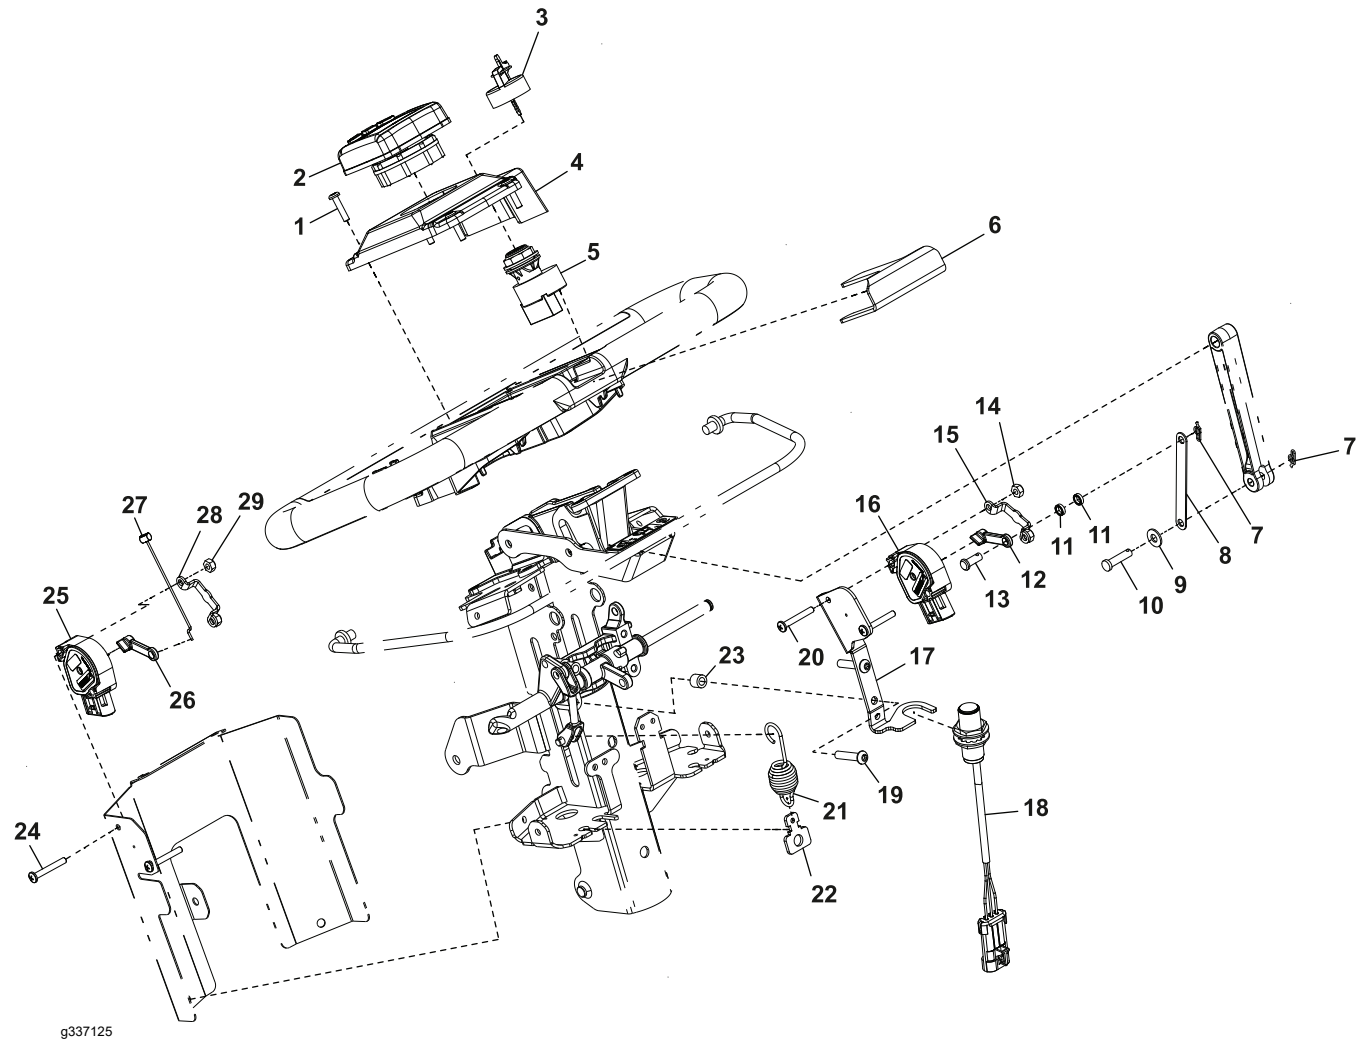

Figure 60
The throttle and clutch bail potentiometers controls the electric motor speed which determines the traction speed. The TEC uses the potentiometers setting as an input to determine the necessary signal output for the motor controller for correct electric motor speed. The throttle potentiometer is attached to the bottom handle cover and clutch bail potentiometer is attached to the upper receiver weldment; refer to (Figure 60).
4. Disconnect the machine wire harness connector from the potentiometer to be tested, and remove the potentiometer from the machine (Figure 60).
6. After you complete the testing, secure the potentiometers to the machine (Figure 60). Secure the wire harness connector to the potentiometer. Secure the handle cover to the handle.